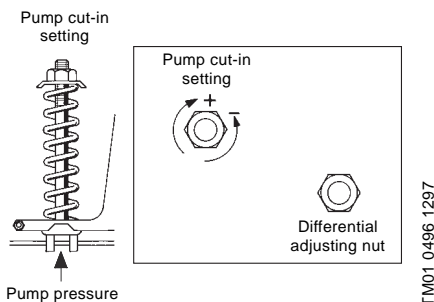

Fig. 8
3. If there is a momentary pause in the water flow before the pump starts, adjust pump switch cut-in setting slightly upward, fig. 8.